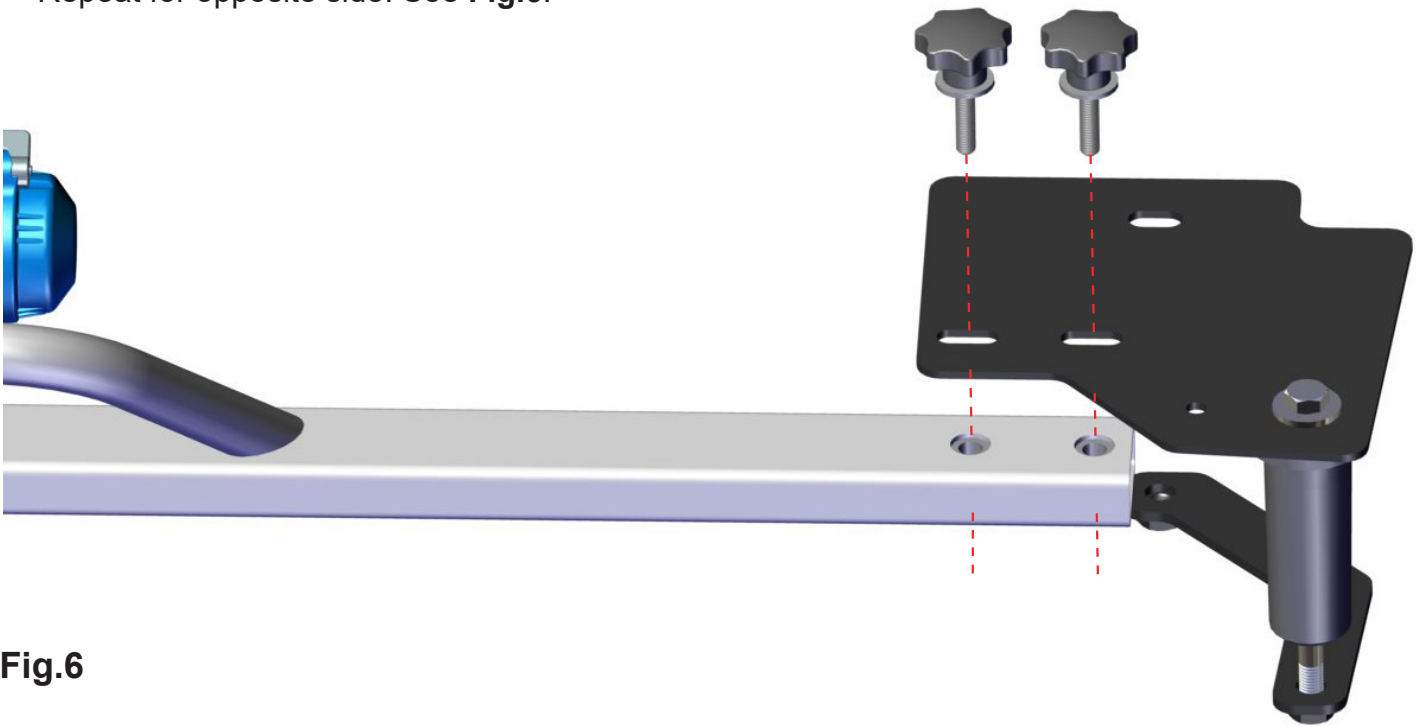

Fig.6
6. Now, after the corner bracing is installed on both left and right corners, You now mount the main **Center Mount** bar with the Winch onto the **Corner Bed Rail Mounts** using the **Hand Knobs** provided in your kit. Tighten securely. Repeat for opposite side. See **Fig.6**.